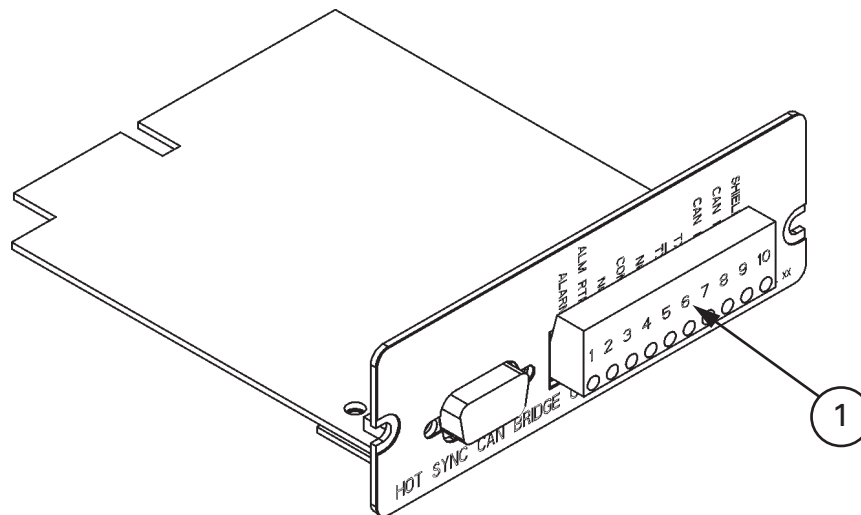
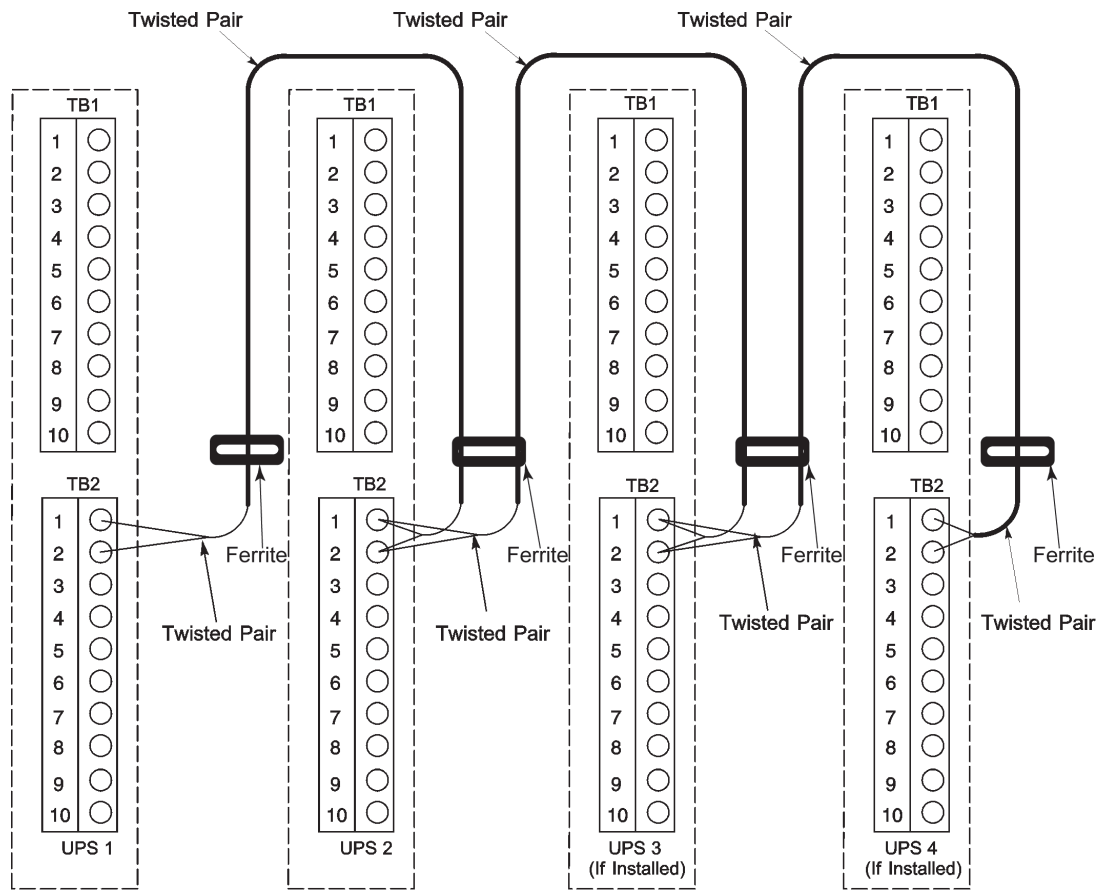
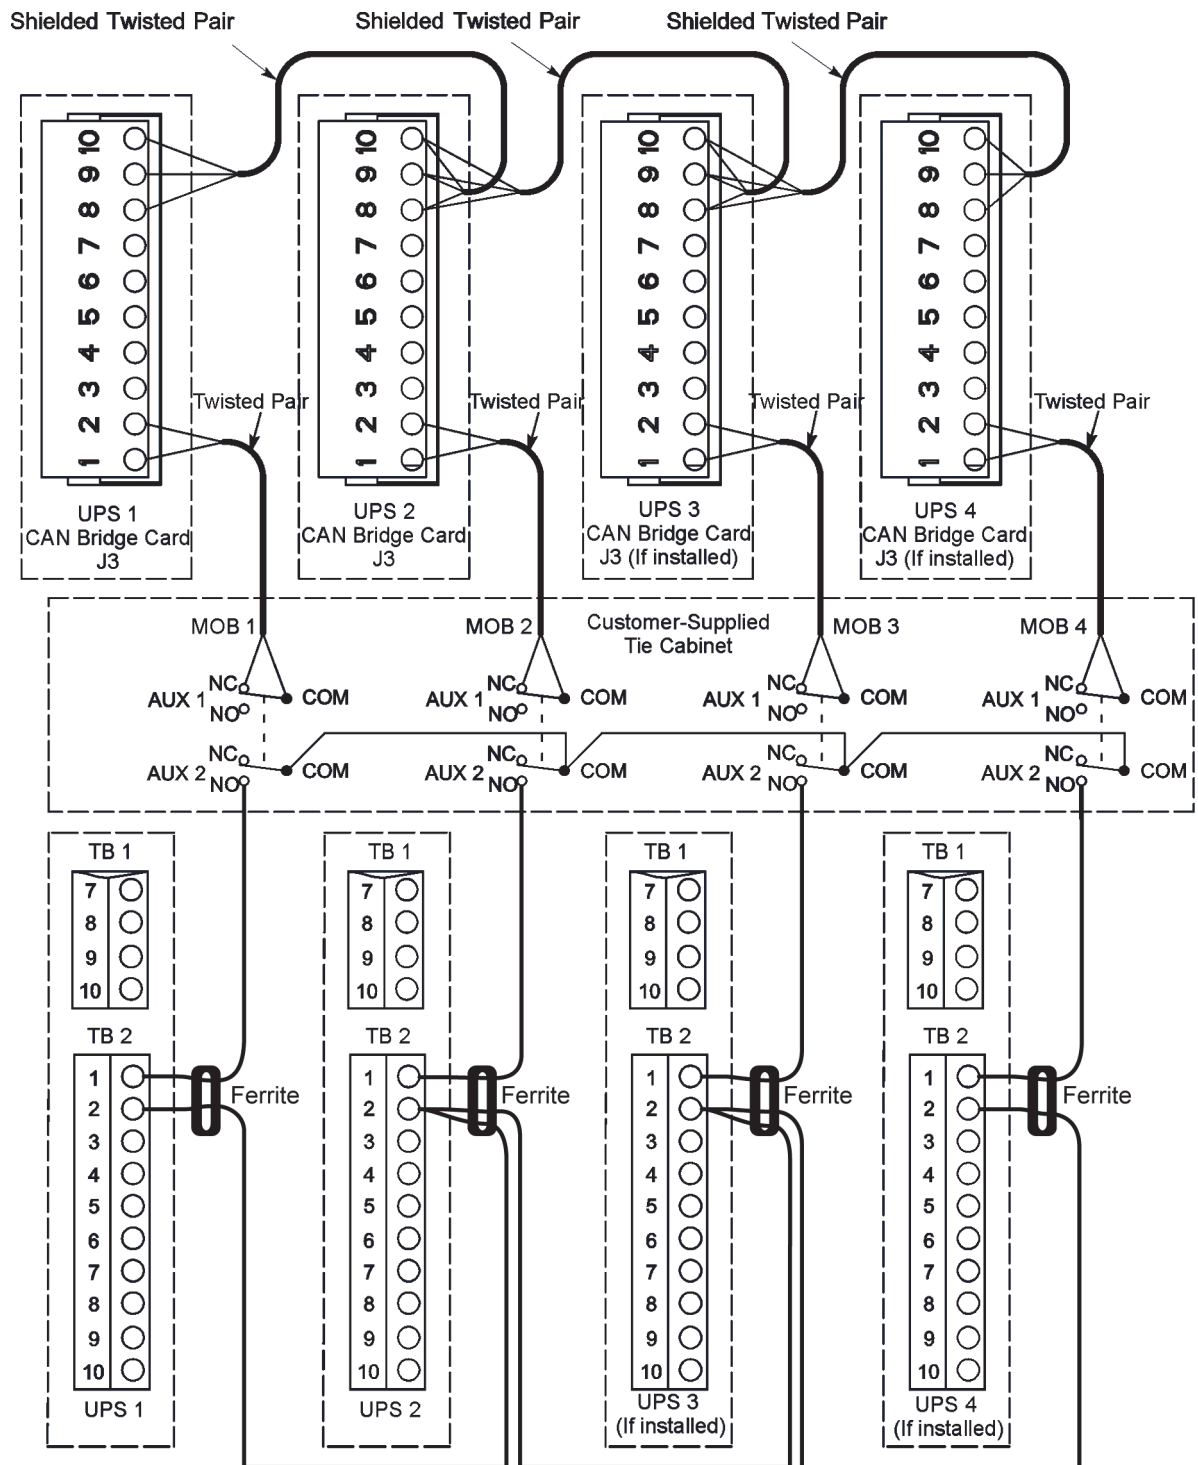

Figure 5-1. HotSync CAN Bridge Card
Figure 5-3. Distributed bypass system CAN and Pull-Chain simplified interface wiring
Figure 5-4. Distributed bypass system UPS CAN wiring without MOBs
As an option, a HotSync Controller Area Network (CAN) Bridge Card, shown in Figure 5-1, can be installed to provide connectivity for operational mode control of a parallel system. In addition, this card can be used to connect optional system monitoring devices, such as a Remote Monitor Panel II, a Relay Interface Module II, or a Supervisory Contact Module II, to the UPS.
7. Route and install CAN wiring between the UPS cabinets. See Figure 5-1 and Table 5-1 on page 71 for the HotSync CAN Bridge Card terminal location and Figure 5-3, Figure 5-4, and Table 5-2 on page 75 for wiring information.
9. Route and install distributed bypass system pull-chain wiring between the UPS cabinets. See Figure 5-3 and Table 5-3 on page 75 for wiring information.
10. Snap the supplied ferrite around the pull chain cable near the TB2 terminals in the UPS. Refer to the Figures 5-3 and 5-4 for the ferrite installation.
12. Route and install distributed bypass system pull-chain wiring between the UPS cabinets and tie cabinet MOBs. See Figure 5-4 on page 74 and Table 5-4 on page 76 for wiring information.